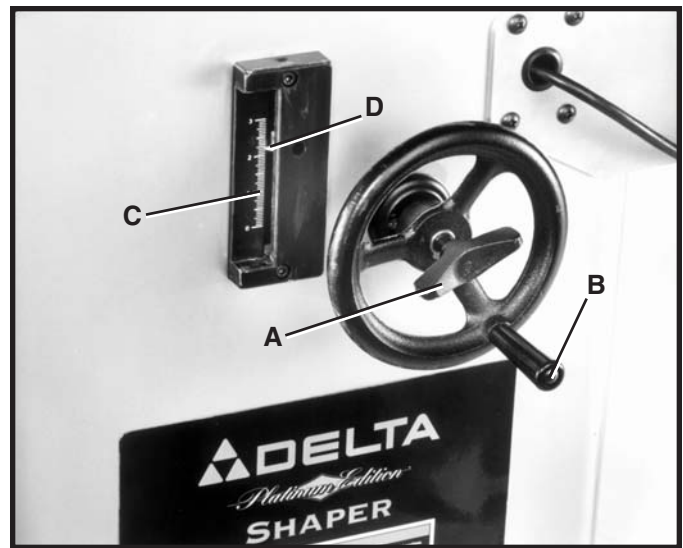

Fig. 45
The spindle can be raised or lowered by loosening lock knob (A) Fig. 45, and turning handwheel (B). To raise the spindle height, turn the handwheel (B) clockwise. To lower the spindle height, turn handle (B) counterclockwise.
The scale (C) Fig. 45, indicates the spindle travel range from 0 to 3 and is marked in 1/16 increments. Minor cutter height adjustments can be measured using the pointer (D) along the scale (C). **CAUTION:** Always tighten lock knob (A) after adjusting spindle height.